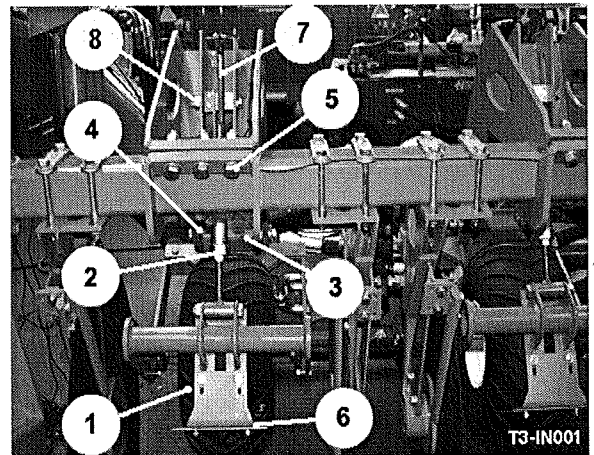

Fig 4
The depth wheels (item 1, fig 4) running on each ridge control the share depth. Their setting is very important to the effective operation of the harvester. The turnbuckle (item 2, fig 4) sets the working depth of the wheels. Lengthening the turnbuckle will cause the shares to run shallower beneath the top of the ridge and shortening will allow the share to run deeper.
The wheels are mounted on rubber torsion springs (item 3, fig 4) which allow the weight to be carried off the wheels to reduce compaction of the ridge, or for additional pressure to be put on the ridge to consolidate it in light conditions when the flow over the shares is poor.
The pressure setting needs to be made when the machine is in work so that the relative working position of the depth wheel to the ridge is correct. By positioning the clamp bolt (item 4, fig 4) in the pressure-setting quadrant, weight can be removed from the depth wheel, or extra pressure can be added to the wheel.
Row width setting is adjusted by loosening the clamp bolts (item 5, fig 4) and sliding the wheel assembly until positioned centrally over the ridge. Repeat for the other wheel ensuring they are set symmetrically about the centre line of the machine. The depth wheels are each fitted with a scraper (item 6, fig 4). The scrapers should be set as close to the wheels as possible without fouling them.
A depth sensor (item 7, fig 4) is fitted to each outer depth wheel unit. The depth control unit allows each wheel to sense the height of the ridge it is running on and in doing so, maintains the constant depth of the share below the top of the ridge. The depth control sensor detects the position of the top link of the depth turnbuckle. Initial digging depth should be set with the harvester standing on a firm level surface. Place a 10" (250mm) block under each roller and lower the digger shares to the ground. Then set the turnbuckles so that the top pins (item 8, fig 4) are 30mm from the top of the slots in the mountings. By default, the depth on the screen should be set to 250mm. The depth adjustment can be varied approximately +/-75mm by the operator from the tractor cab.